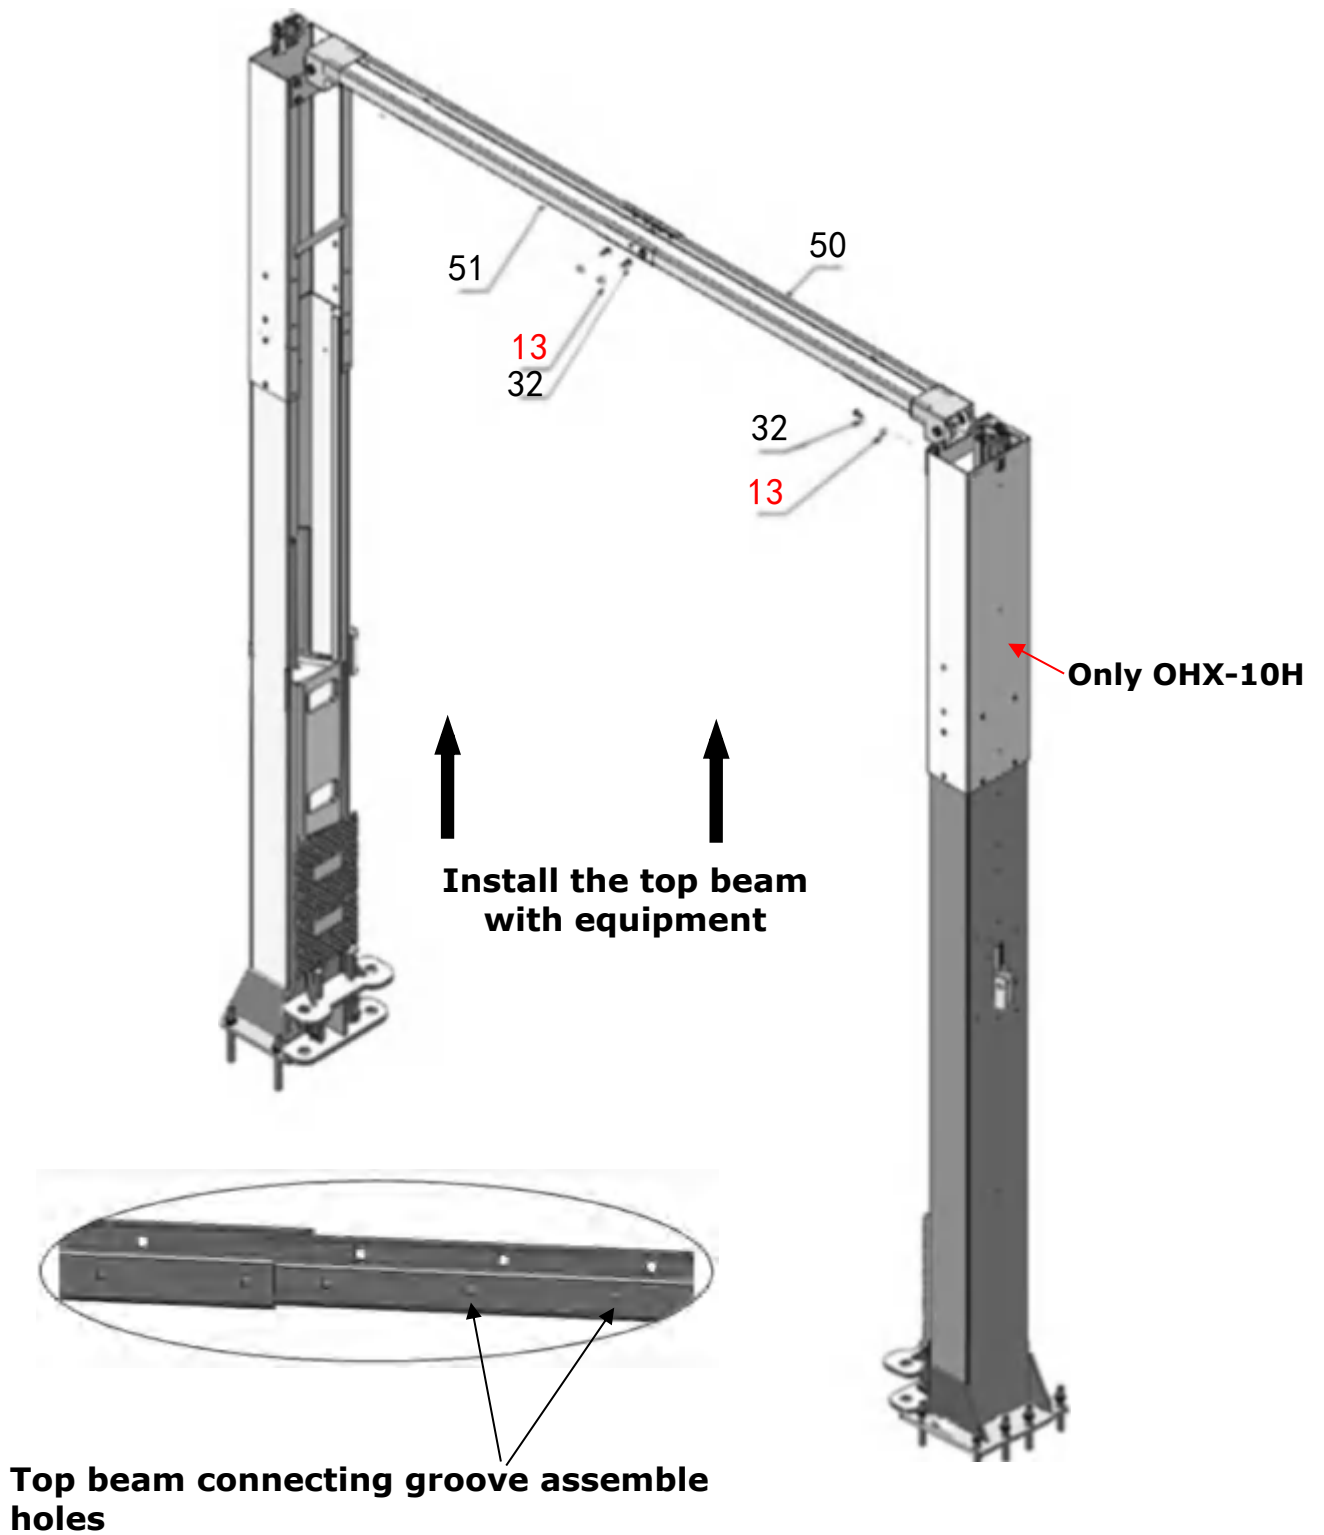

Fig.23
H. Install overhead top beam (See Fig. 23).